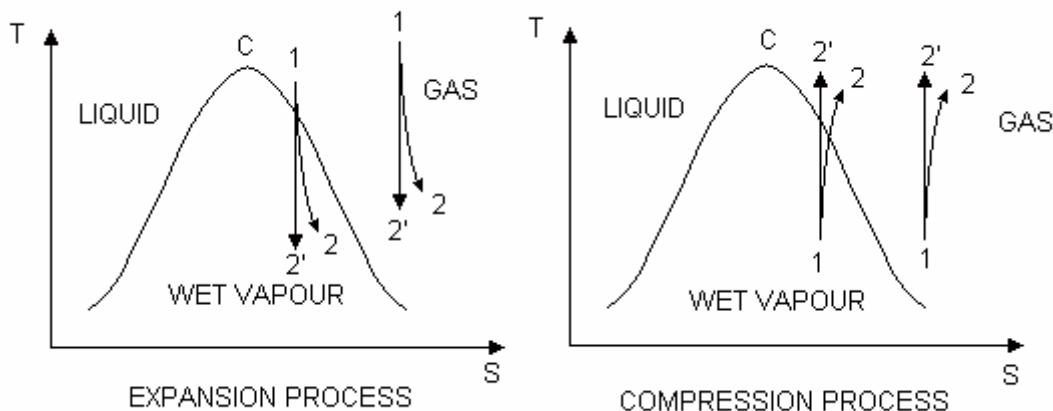

Figure 1
Figure 1 shows expansion and compression processes on a T-s diagram. In the case of vapour, the line crosses the saturation curve. In the case of gas, the process takes place well away from the saturation curve and indeed the saturation curve would not normally be shown for gas processes. Note that in every case, the ideal process is from (1) to (2') but the real process is from (1) to (2).